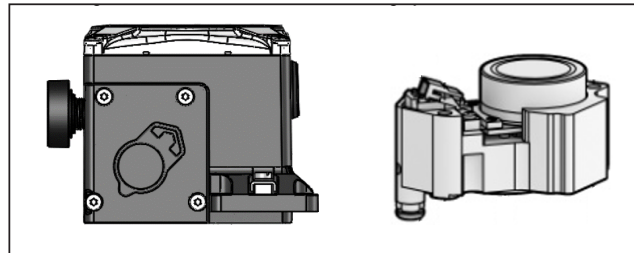

Fig. 74 NDX1510_ prestage location.
- under prestage cover with prestage symbol (Fig. 74)